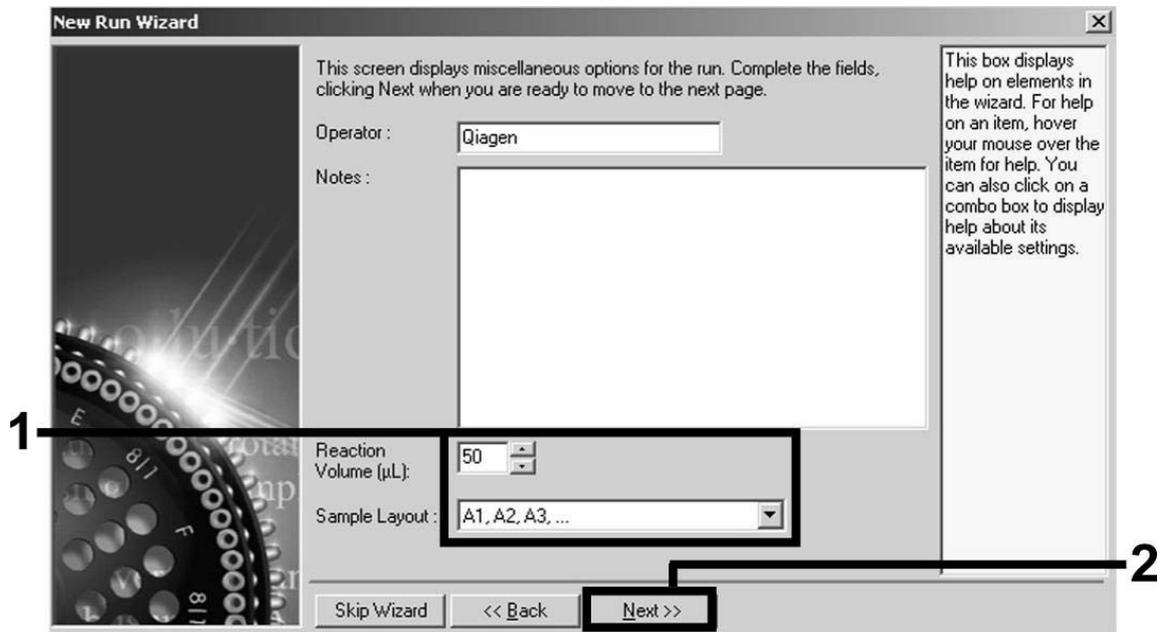

Figure 8. Setting the general assay parameters.
5. Select 50 for the PCR reaction volume and click “Next” (Figure 8).